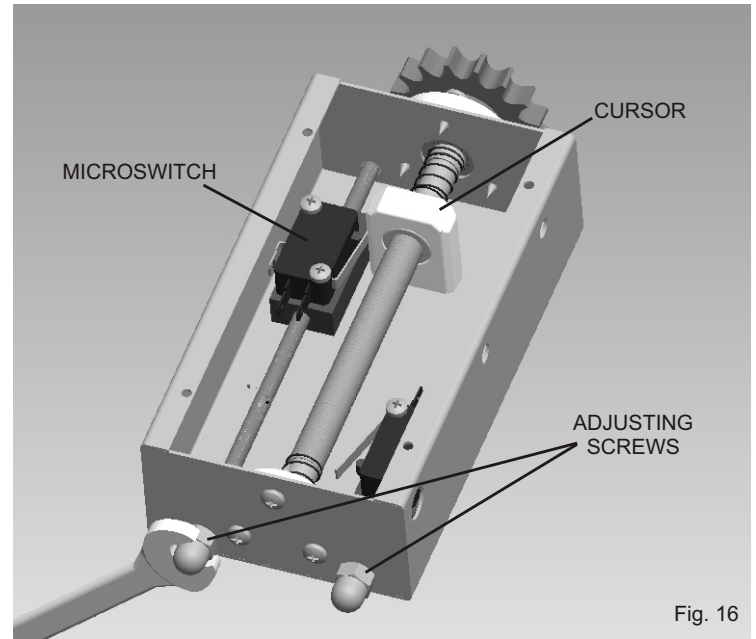

Fig. 16
- act on the adjusting screw so that the microswitch can activate the contact with the cursor (Fig. 16)